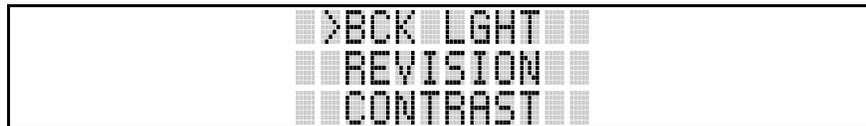

Figure 13: Backlight Menu Item
2. PRESS: \uparrow or \downarrow until the display shows (see Figure 13):